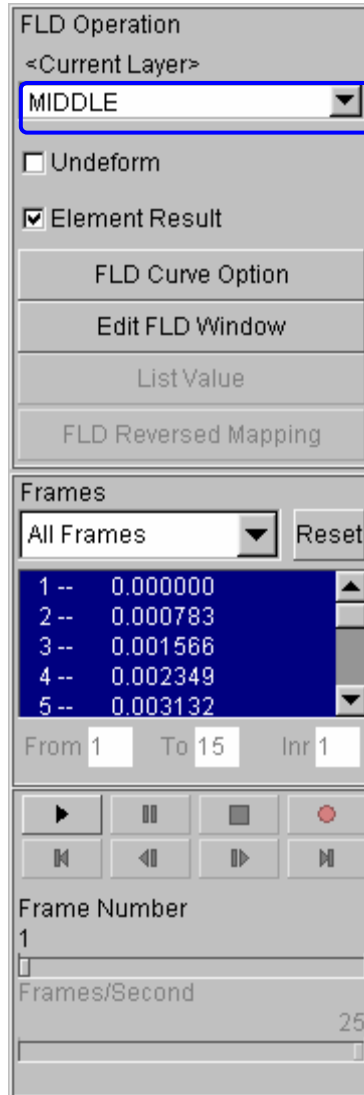
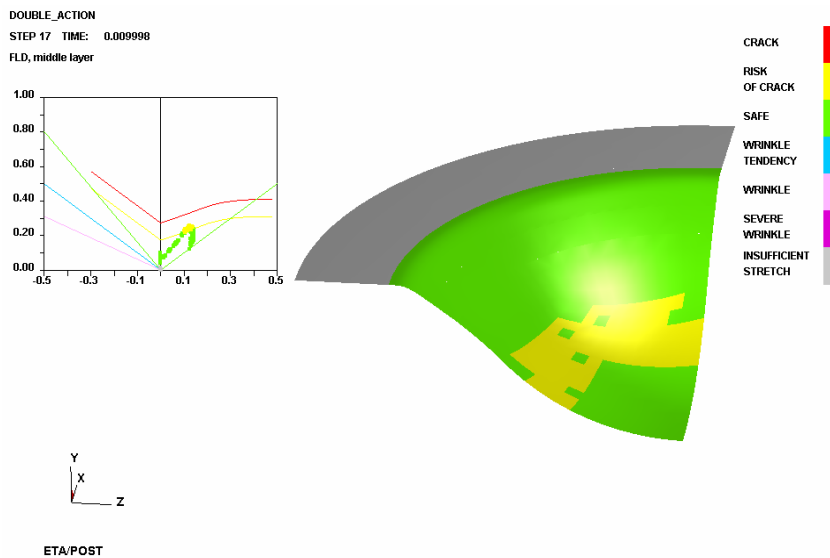

Figure 2.51 FLD display dialog box
Figure 2.52 FLD contour
2. Select **Middle** from the **Current Component** list, as illustrated in Figure 2.51. The FLD contour of deformed dome is illustrated in Figure 2.52.